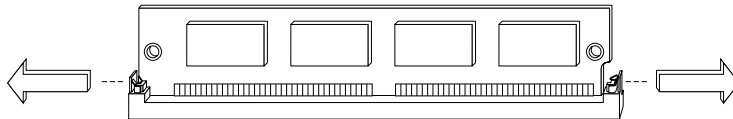

Figure 9-17 Releasing the Latches on the SIMM
8. With your thumbs, pull the latches away from the SIMM, as shown in Figure 9-17.